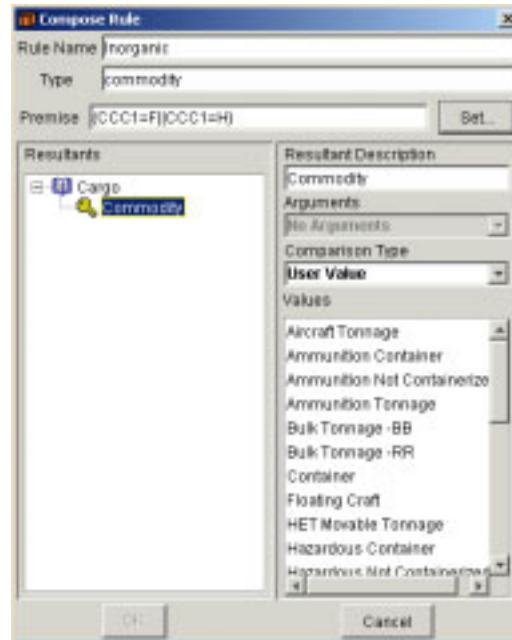

Figure 5.121 Compose Rule Window
28. On the Compose Rule window, in the Resultants panel, click a commodity key. The selected key is highlighted, and the text and list boxes in the right panel display values for the selected key (Figure 5.121).